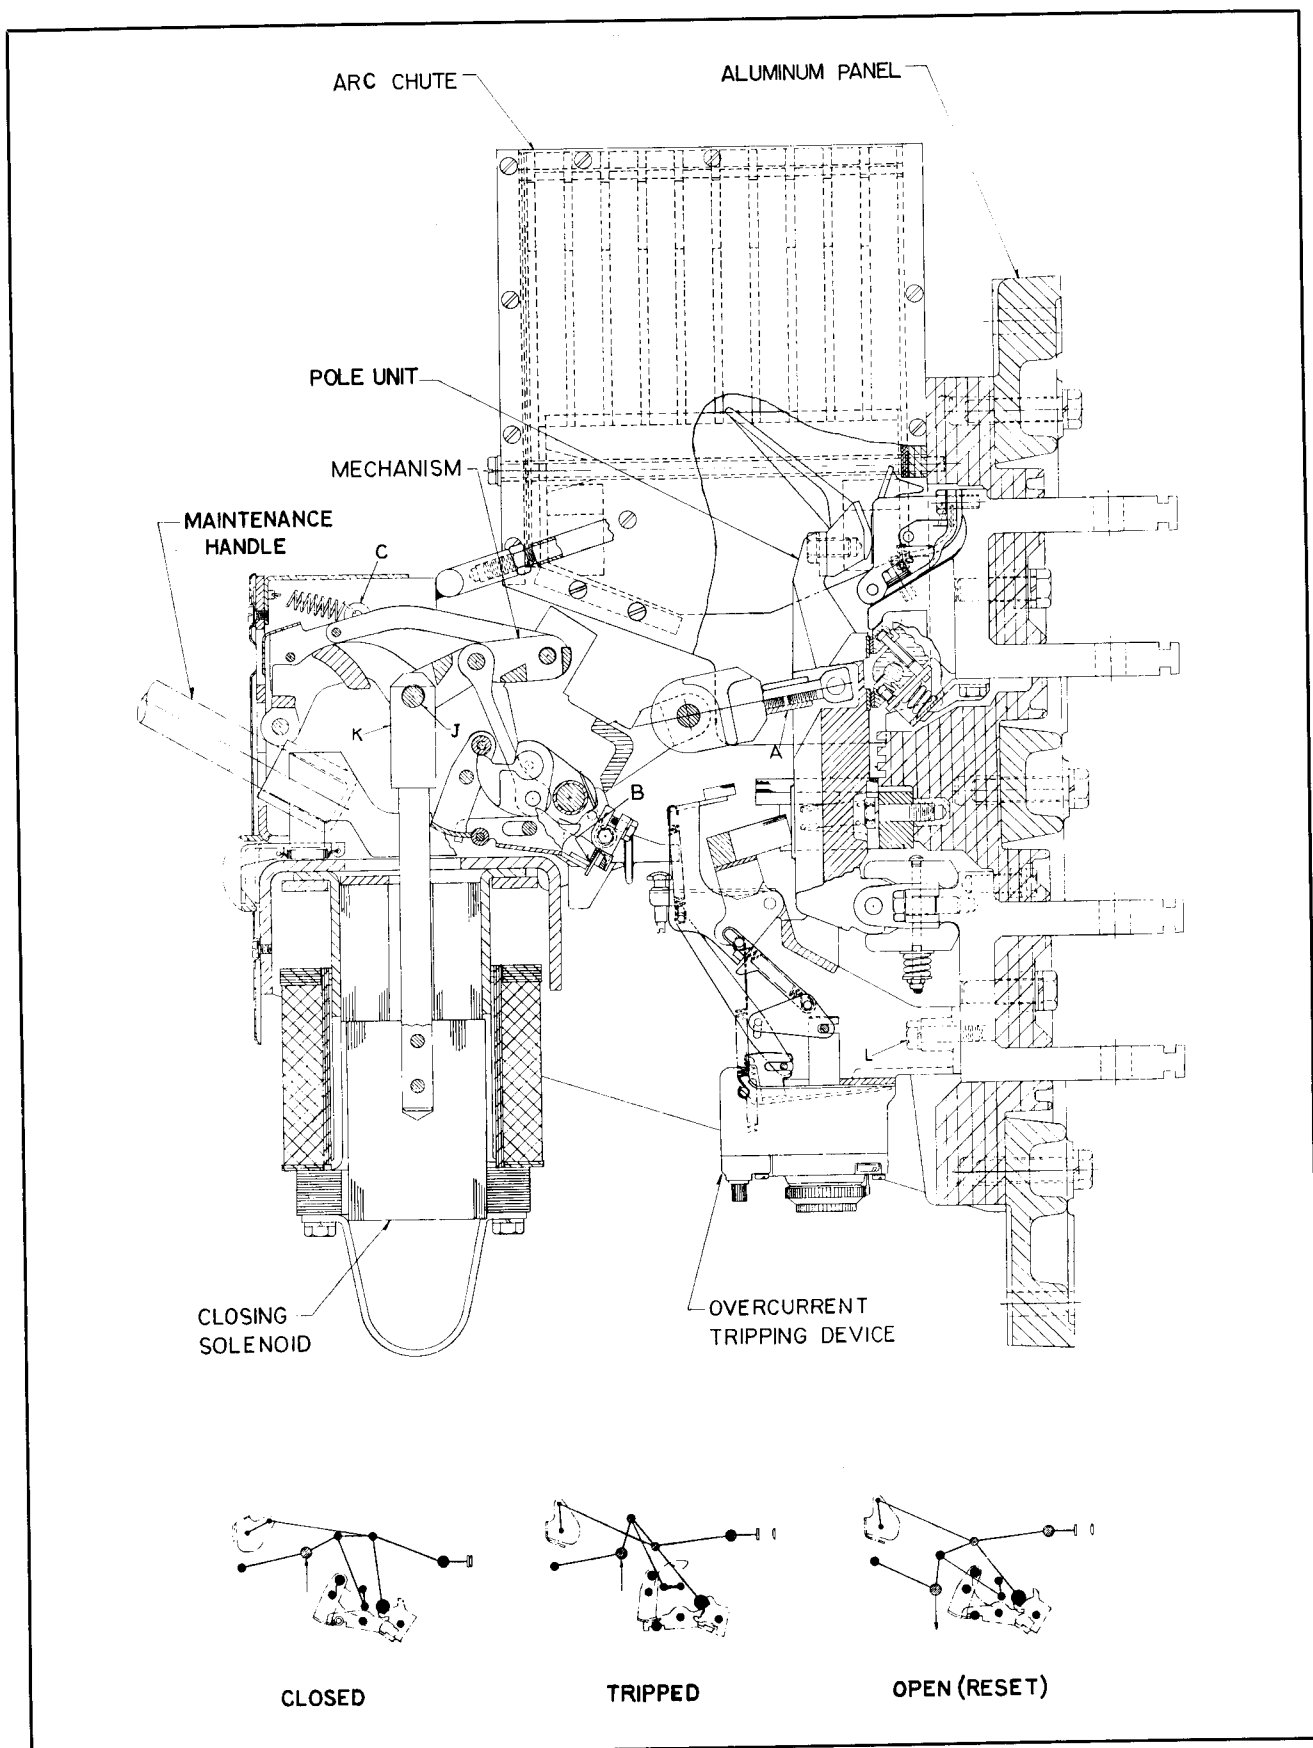

FIG. 3. Cross-Sectional View of Air Circuit Breaker
Each pole unit (Fig. 3) is mounted on a separate molded base. The molded bases are attached to the aluminum mounting panel and provide insulation for the breaker studs.
Contacts. (See Fig. 3.) The arcing contacts must touch first on closing and open last on opening.
The operating mechanism (Fig. 3) is non-adjustable and consists of a series of non-ferrous links designed to secure low closing and tripping forces. To check for friction, with the breaker open, raise
7. Before assembling mechanism check sliding surfaces of two latches shown at "B", Fig. 3. These surfaces must be clean, free of burrs, and have not more than .035 inch clearance in the reset position.